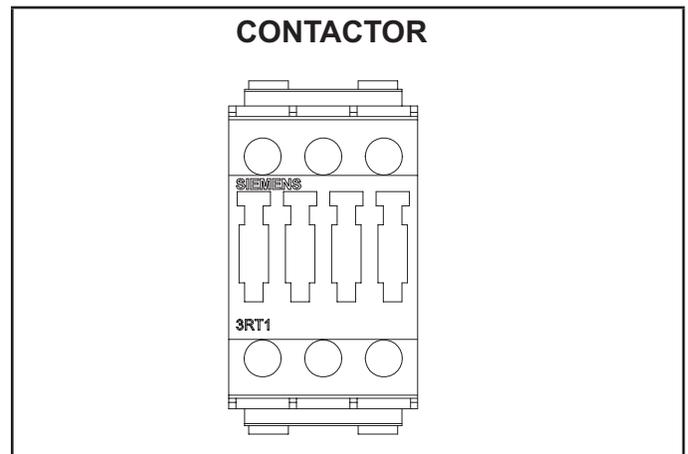

FIGURE 4
All use a single line voltage to 24VAC transformer installed in the control box. The transformer supplies power to control circuits in the unit. The transformer is rated at 70VA and is protected by a 3.5 amp circuit breaker (CB8). The 208/230 (Y) voltage transformers use two primary voltage taps as shown in figure 4, while 460 (G) and 575 (J) voltage transformers use a single primary voltage tap.
All compressor contactors are three-pole-double-break contactors with 24VAC coils. In all KGC units, K1 and K2 energize compressors B1 and B2 in response to thermostat demand. See FIGURE 4.
Blower contactor K3, used in all units, is a three-pole double-break contactor with a 24VAC coil used to energize the indoor blower motor B3 in response to blower demand. K3 is energized by a thermostat cooling demand. See FIGURE 4.